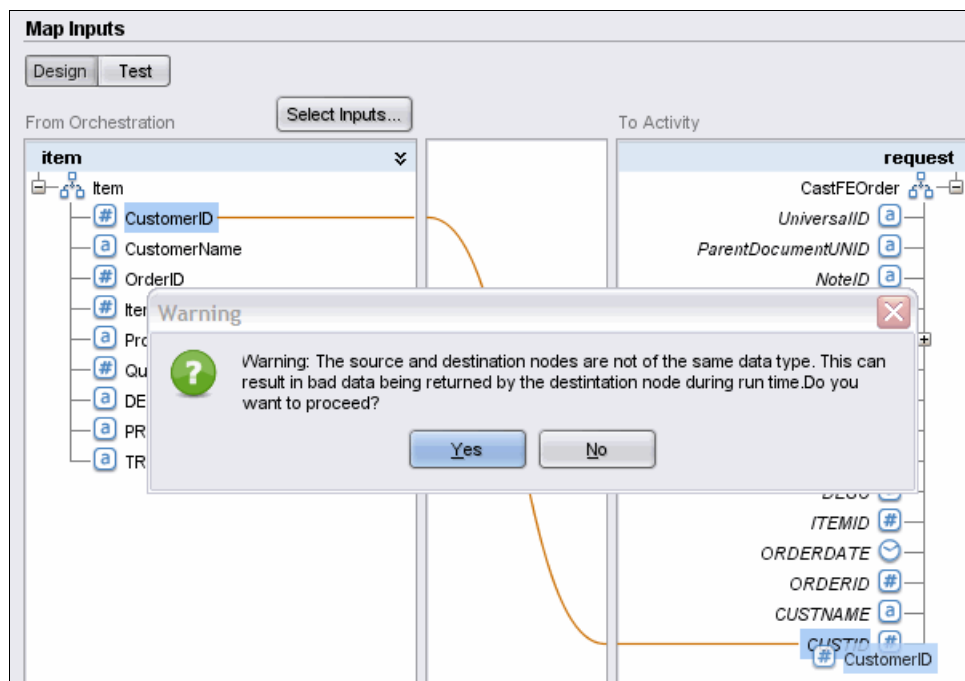

Figure 12-70 The warning message when you map CustomerID to CUSTID
6. Drag **CustomerID** on the left to CUSTID on the right. Click **Yes** in the warning message window. This message warns of data type mismatch. It does not affect your project. See Figure 12-70. From now on in this Map Inputs panel, click **Yes** for all the warning messages that pops up. Complete these steps on this window: